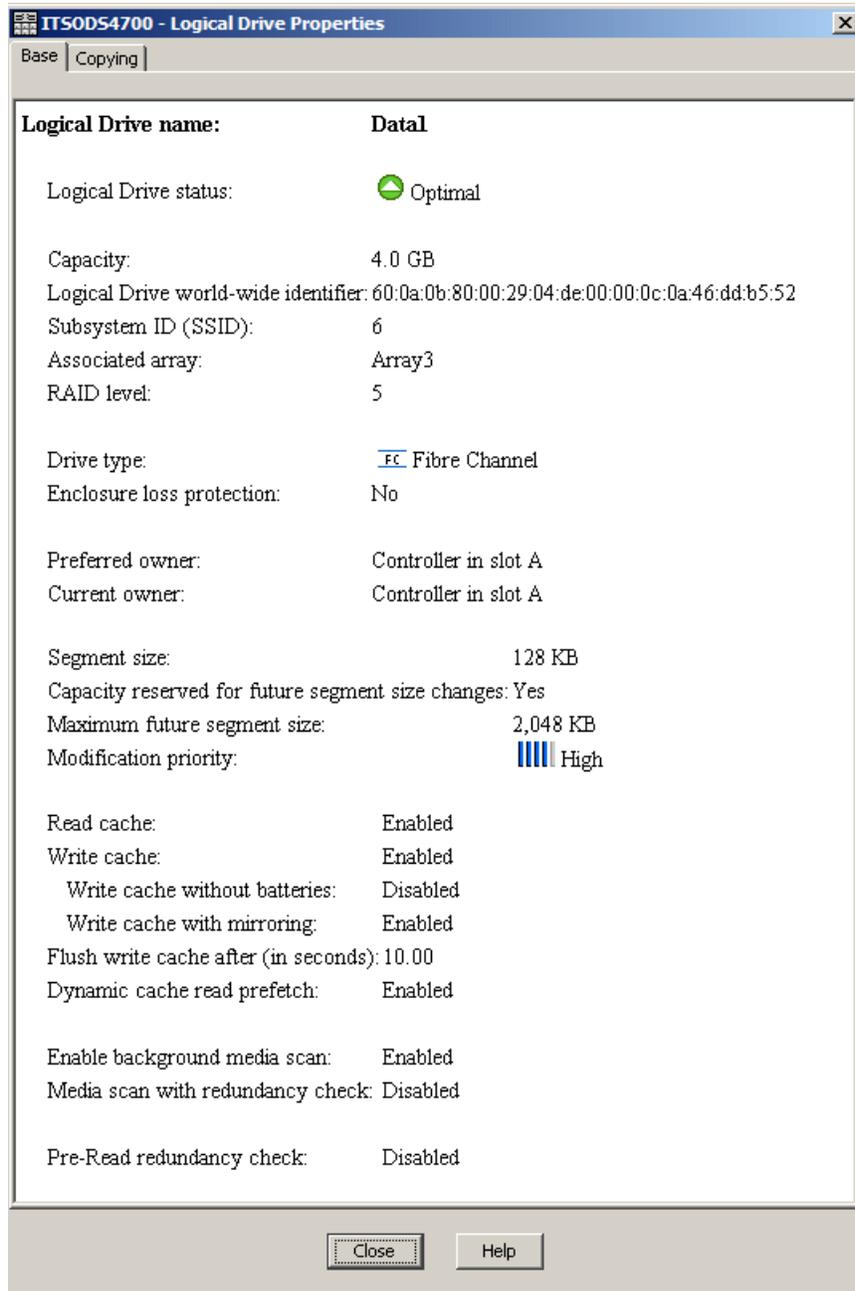

Figure 9-9 Logical Drive Properties: Base tab
2. Select either the **Logical Drive** → **Properties** pull-down menu option or **Properties** from the right-mouse pop-up menu (Figure 9-9).